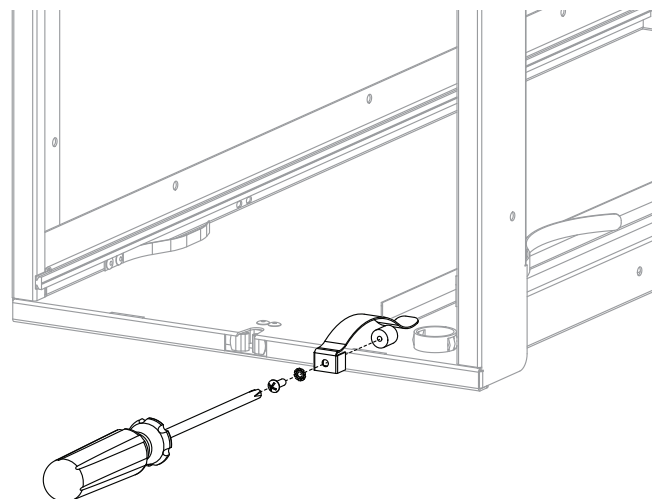

Fig. 2 - FEM Spring Replacement
1. Using a Phillips head screwdriver, loosen and remove the screw and star washer securing the ground spring to the cabinet. See Fig. 2.